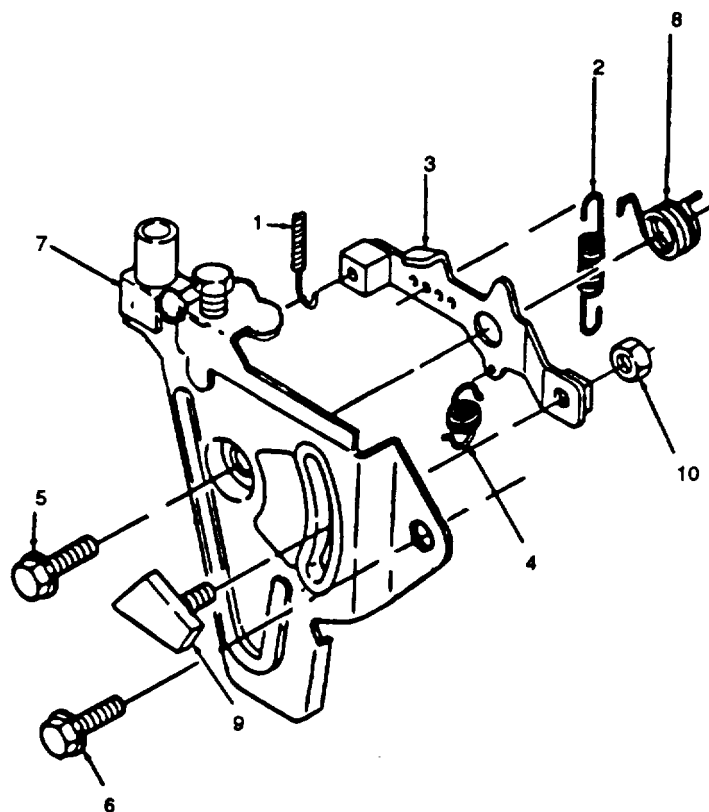

Figure 5-11. Speed Control Device Assembly
a. Removal. (Refer to Figure 5-11)
- (1) Remove throttle control inner wire (1) from the regulator lever (3).
- (2) Remove regulator spring (2) from the governor lever and regulator lever (3).
- (3) Remove return spring (4) from the governor lever and regulator lever (3).
- (4) Remove mounting bolts (5 and 6).
- (5) Remove regulator bracket (7) with regulator lever (3) attached.
- (6) Remove regulator coil spring (8).
- (7) Remove regulator lever (3) from regulator bracket (7) by unscrewing lever retainer (9) and self-locking nut (10).